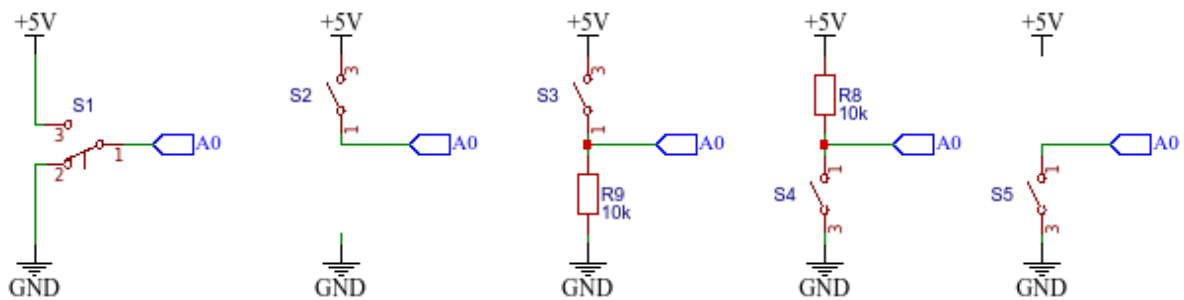

Figure 6.1: Different options of wiring the bush-button-switch.
1. Connect the push-button-switch according to first diagram on fig. 6.1 and test the program prog. example 6.2
2. Try to connect the bush-button-switch according to second diagram on fig. 6.1
Try to understand why this setup is not working. And test all other options in fig. 6.1
3. Solve the problem by constructing a **voltage divider** with **pull-down** resistor (third diagram on fig. 6.1).
5. Change the setup of PBSW and resistor to a **pull-up** setup (fourth diagram on fig. 6.1). What is changed?
6. Enable internal **pull-up** resistor (and remove external one - fifth diagram on fig. 6.1).